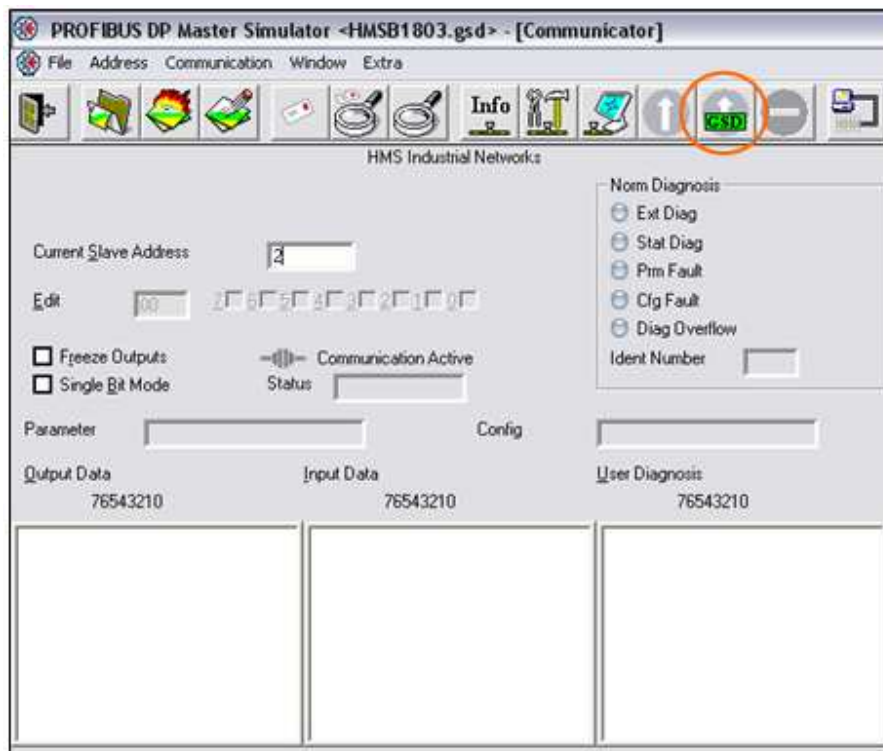

Figure 40 - Start ProfiBus Master with GSD
- 6- Click on the **Start with GSD** button, click on the **Ok** button of the warning popup message, see figure 40.